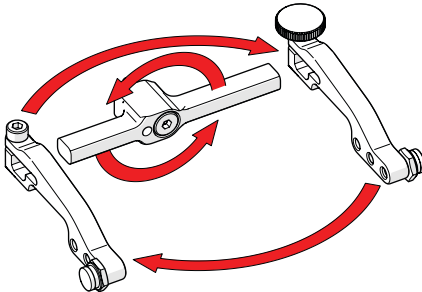

Fig. 70 - Flip yoke and reverse arms
4. Flip the yoke 180° and reverse the probe holder arms (Fig. 70).